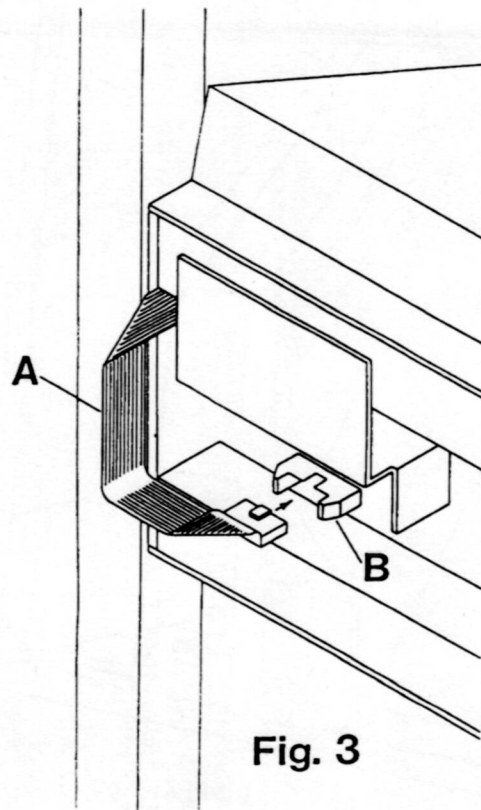

Fig. 3
Insert the clamps (5 & 6) into the upright so that the threaded holes are facing up to check the fit and to see how they insert, then remove the clamps (you may need a soft mallet to tap the clamps in). Slip the hand rails (3) over the black nylon plugs on the rear foot. Slip the right (4) and left (5) clamps over the hand rails so that the threaded holes face up when pushed into the upright (2) as shown in Fig. 3. The easiest way to insert the clamps (5 & 6) into the upright (2) is to check the alignment of the clamps with the uprights. **It may be necessary to twist the handrail (4) towards the display then pull**
Lay the *ClimbMax* on its right side and locate the display cable. As shown in Fig. 3, fold the display cable (A), attach the cable to the connector (B). Stand the *ClimbMax* up.